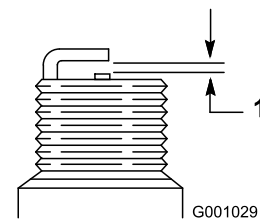

Figure 53
7. Set the gap between the electrodes on a new spark plug at 0.030 inch (0.76 mm) (Figure 53).